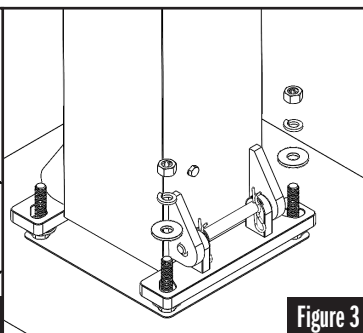

Figure 3
- Slide the Base Pole onto the J-Bolts with the hinge side closest to the court & the slotted holes furthest away. Secure front, courtside bolts with (2) Flat Washers, (2) Lock Washers and (2) 5/8" Nuts. See Figure 3.